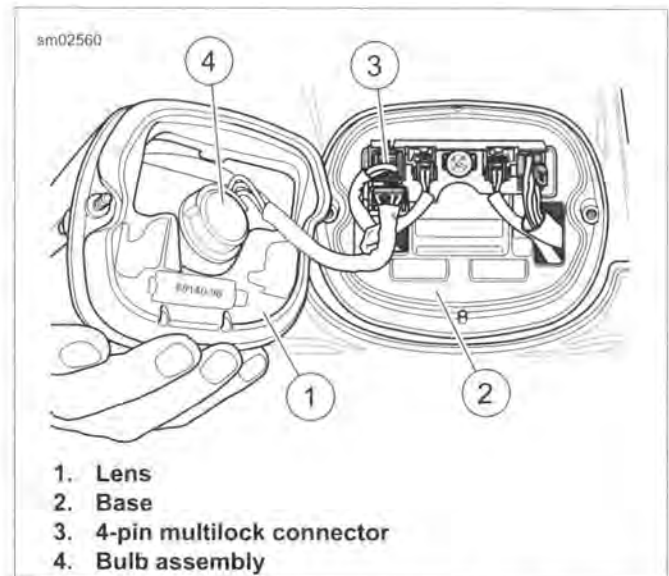

Figure 7-36. Tail Lamp: FLD Models
2. See Figure 7-36. Remove two screws and lens (1) from base (2).
1. See Figure 7-36. Remove two screws and lens (1) from base (2).
9. See Figure 7-36. Install lens (1) to base (2) with two screws. Tighten to 20-24 in-lbs (2.3-2.7 Nm).